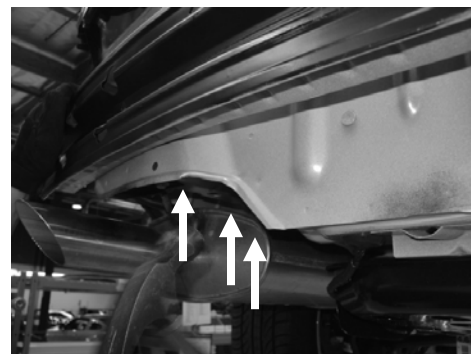

Figure 6
6. Bend flanges on gas tank forward so they are flush with the gas tank (below rear bumper; see Figure 6).